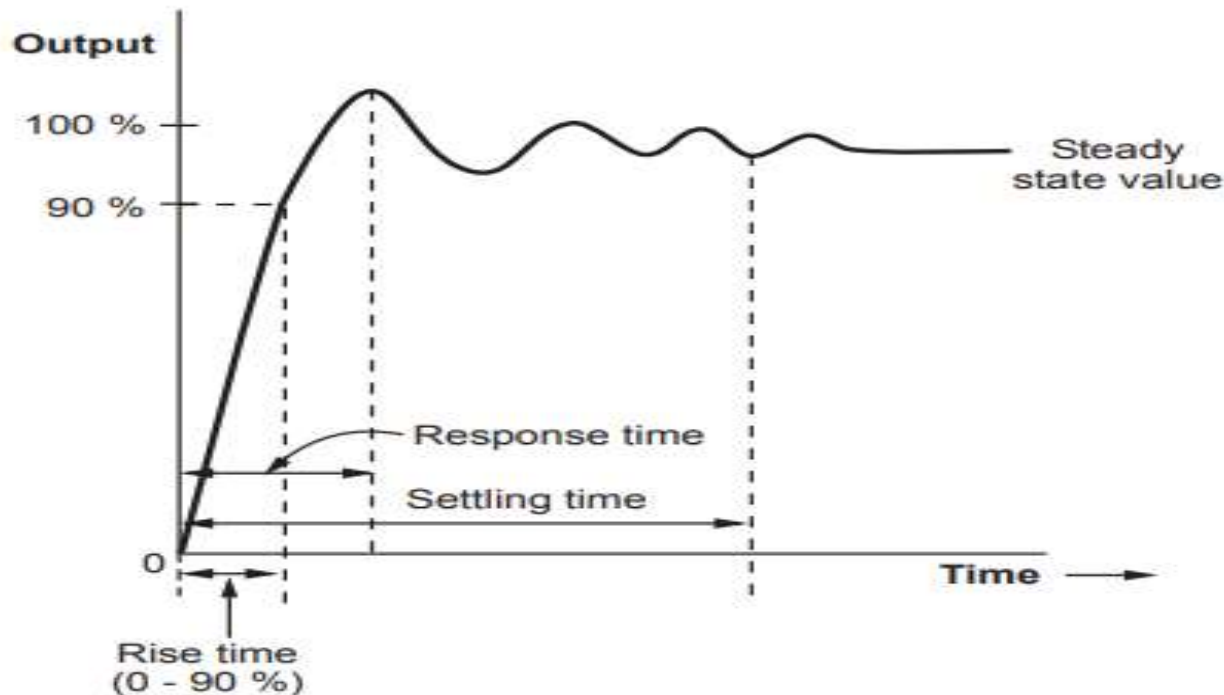

Fig. 1.2.9 Rise, response and settling time
- Dynamic characteristics of a control system are specified by rise time, response time and settling time as shown in Fig. 1.2.9.